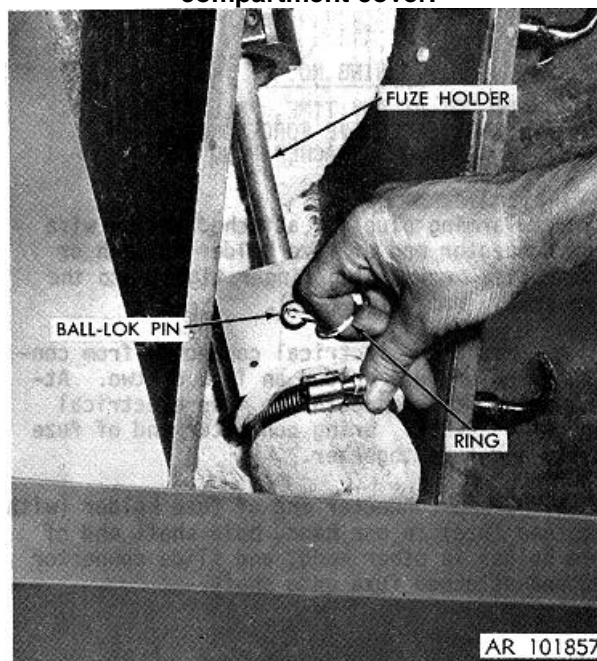

Figure 2-26. Removing ball-loc pin from fuze holder.
b. Lift fuze holder up from its resting place in fuze compartment and pull the ring attached to ball-loc pin to remove pin (fig. 2-26).